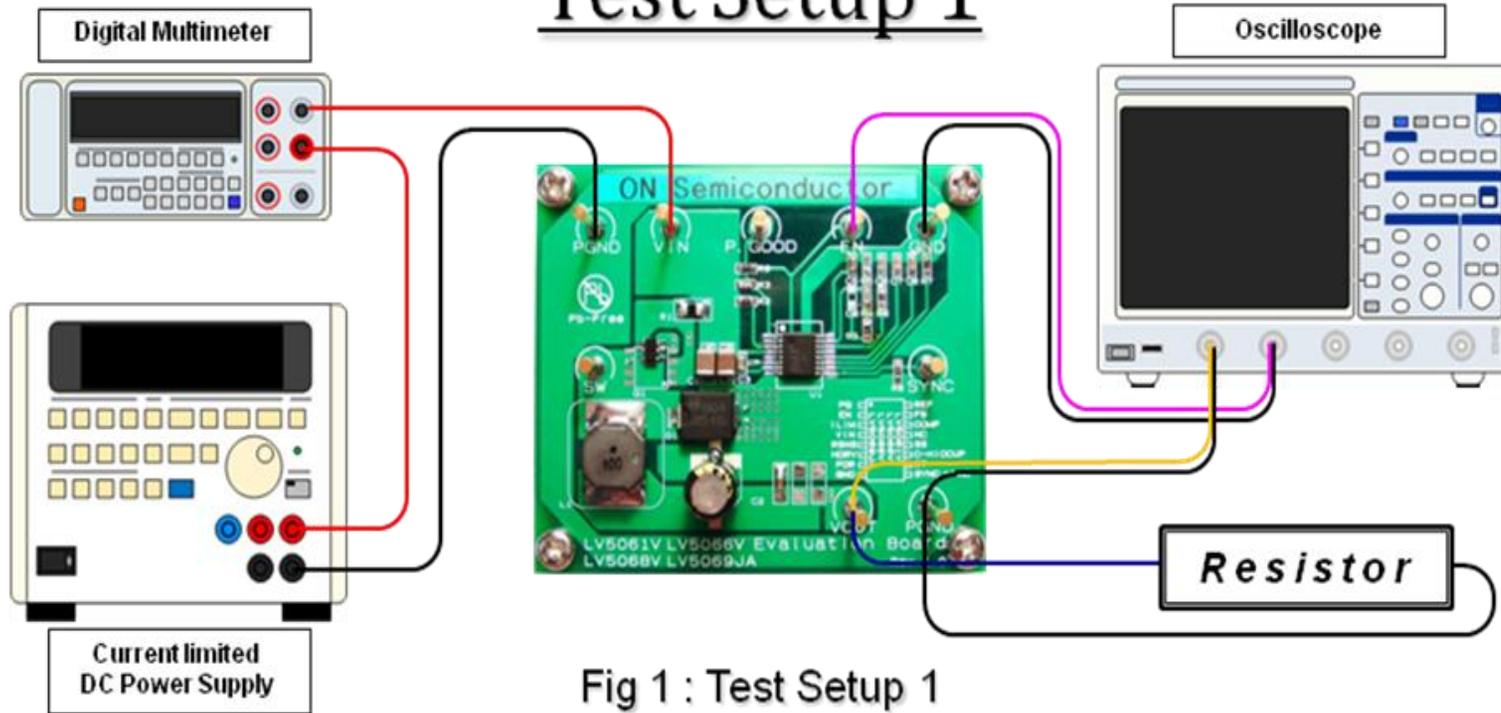

Fig 1 : Test Setup 1
- ❑ The layout is as shown in Figure 1: Test_setup1 and supply input voltage ($V_{IN} = 24V$).
- The layout is as shown in Figure 1: Test_setup1 and supply input voltage ($V_{IN} = 24V$).